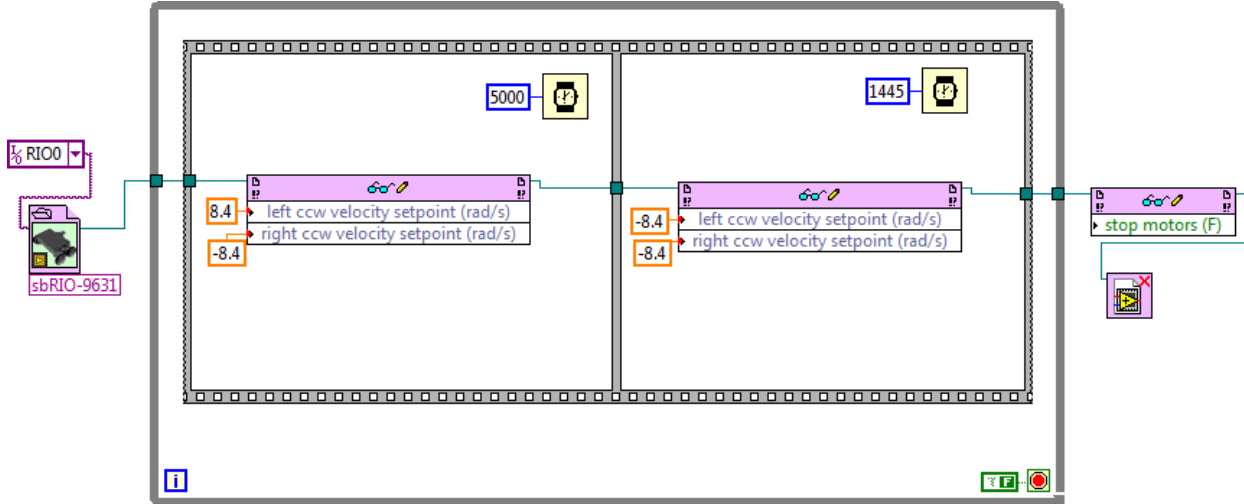

Figure 2.10
Step 8: Attach a Boolean true constant to the input of the read/write control (2). This is the one labeled stop motors.
Step 9: Connect a data wire as shown in figure 2.10